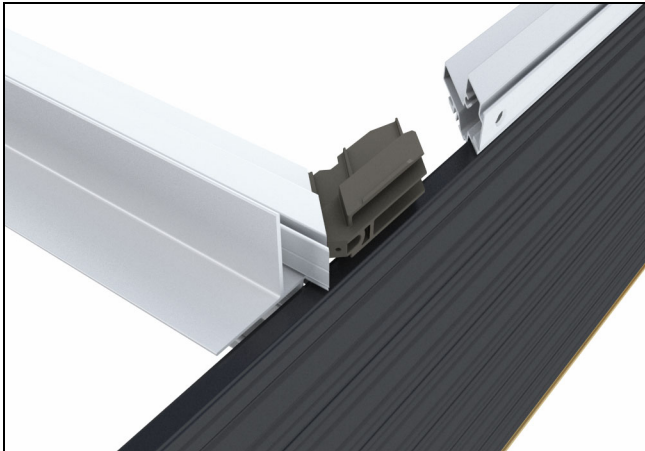

Figure 78
8. On pocketing interlock, insert frame cladding corner key into mitered end and align with head jamb cladding using key as reference. See figure 78.